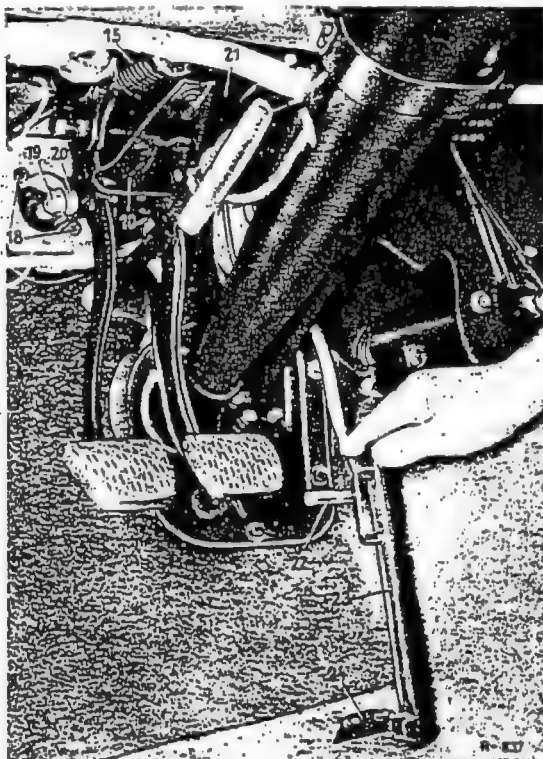

Fig. 42-18/1
1. Pull out the cotter pin from the brake lever (3) and detach the brake cable (2) from the brake lever (see Fig. 42-18/2).
2. Remove the inside cover and unscrew the bracket (21) of the ratchet at the support of the pedal system (see Fig. 42-18/1).